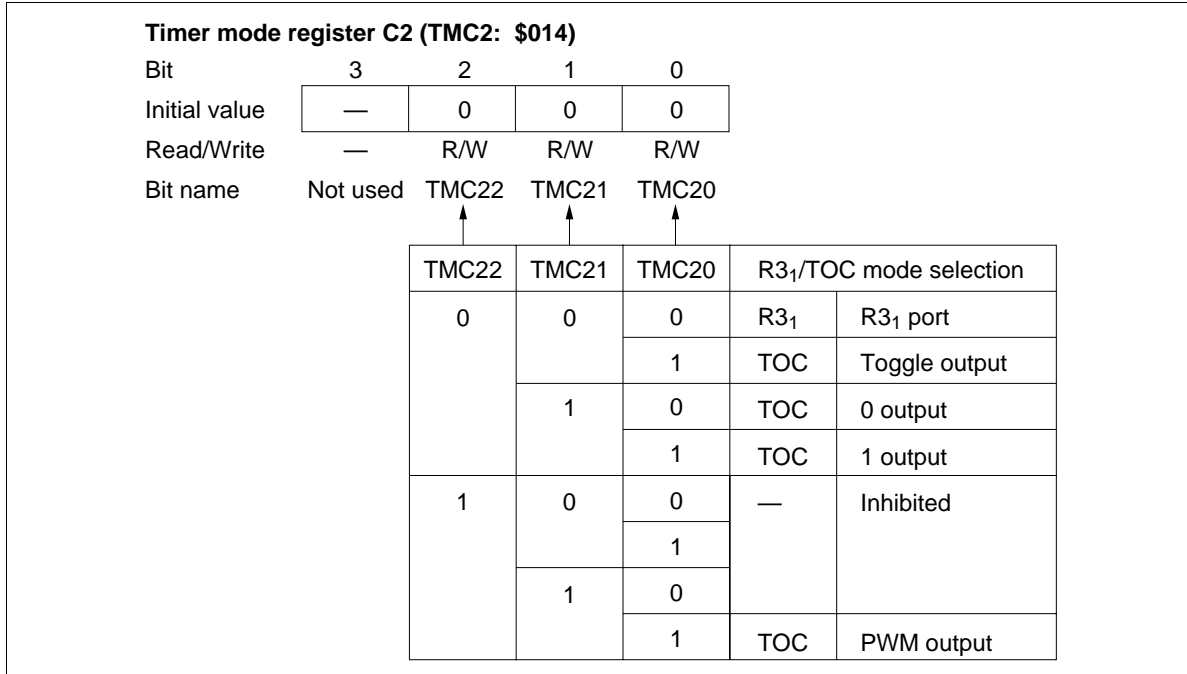

Figure 35 Timer Mode Register C2 (TMC2)
- Timer mode register C2 (TMC2: \$014): Three-bit read/write register that selects the timer C output mode as shown in figure 35. It is reset to \$0 by MCU reset.